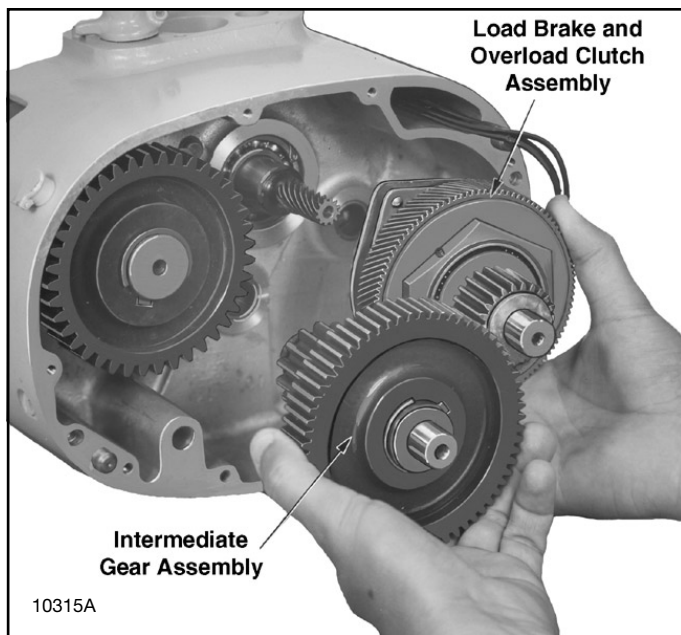

Figure 7-8. Removing Load Brake and Clutch and Intermediate Gear Subassemblies (1 through 3 Ton Hoists)
(2) On 1 through 3 ton hoists, pull load brake or clutch assembly and intermediate gear assembly, including the thrust washers for each unit, from hoist frame (fig. 7-8).